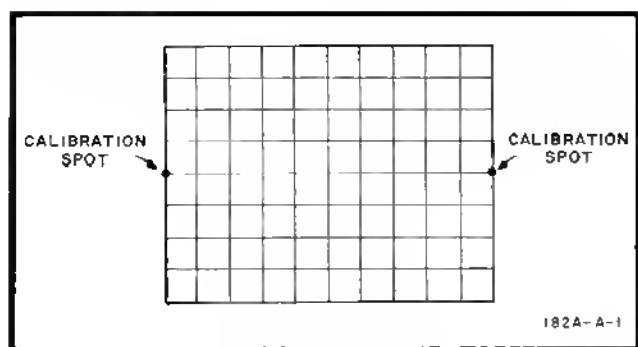

Figure 5-3. Calibration Display
g. Adjust X1 Gain Adj A5R46 for exactly 10 divisions of separation between spots (Figure 5-3).